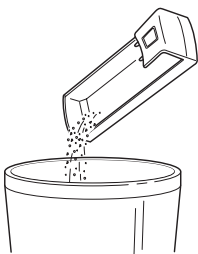

Fig. 9
- 2 Empty dust container contents. (Fig. 9) If desired, you may rinse with water to clean the dust container - but dry thoroughly before replacing.